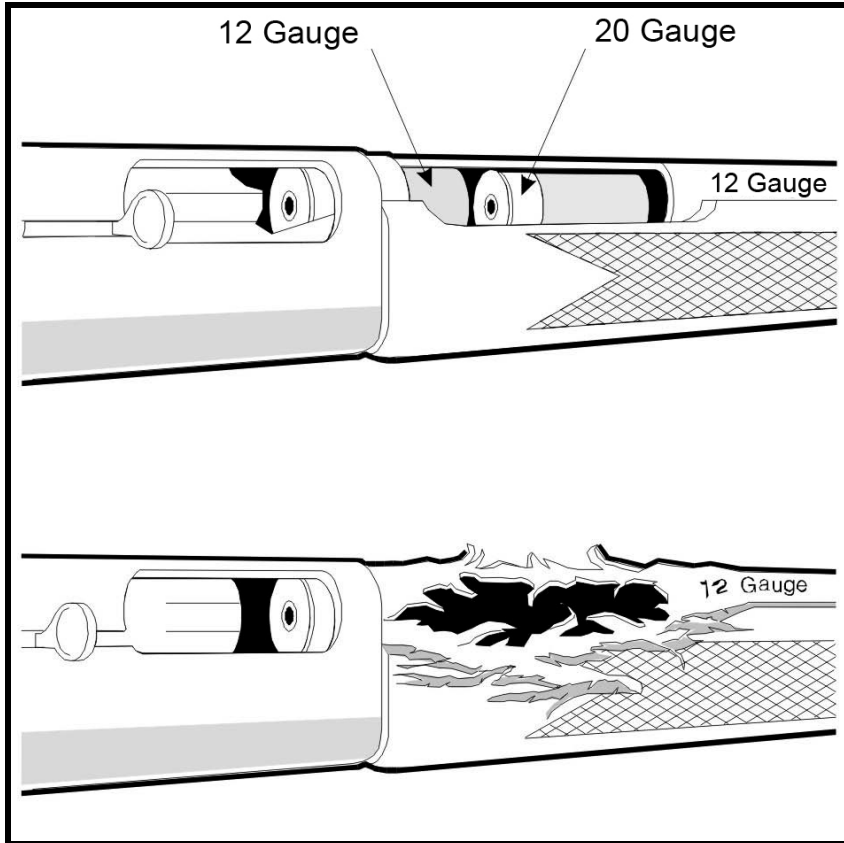

Figure 36. Exploded Chamber
**Do not attempt to use longer ammunition than indicated on the barrel data stamp. If you do, the barrel might burst (Figure 36).**
Serious injuries may occur when hunters or shooters load the wrong ammunition into their firearms. An easy mistake to make is loading and chambering a 20-gauge shotgun shell into a 12-gauge shotgun. The small shell will slide through the chamber and stick in the forcing cone. Users may then insert a 12-gauge shell behind the 20-gauge shell. When fired, the barrel may burst (Figure 36). Burst barrels scatter metal. People have been seriously injured or killed by this error.